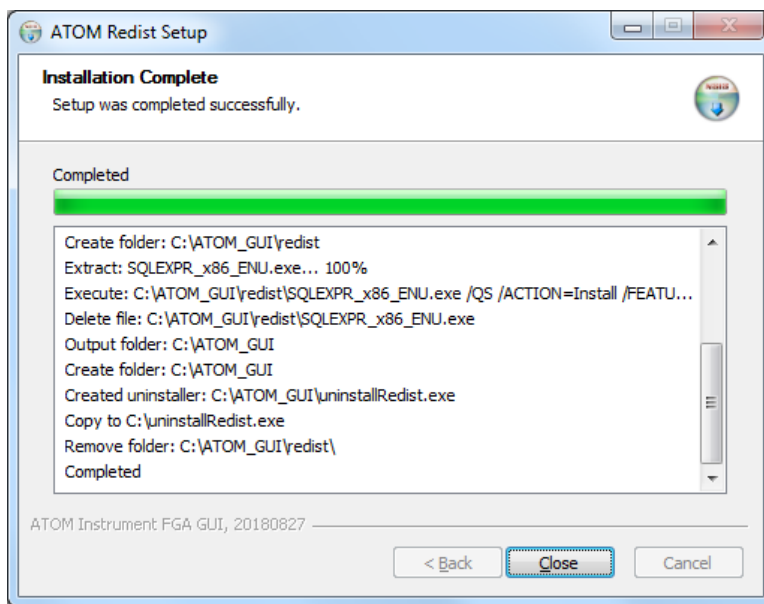

Figure 3.8
- Once the installation is complete (~ 5 - 10 mins), and when prompted, click "Close" (*Figure 3.8*).